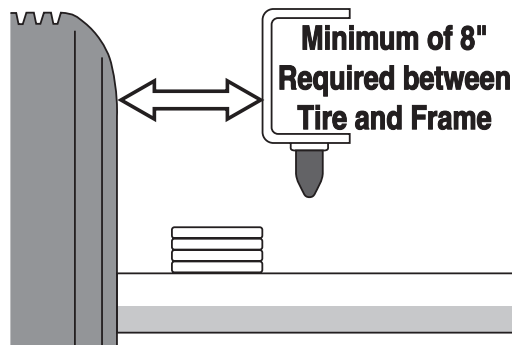

fig. 2
1. Raise the vehicle, remove the wheels, and obtain normal ride height (Figs. 2 & 3).